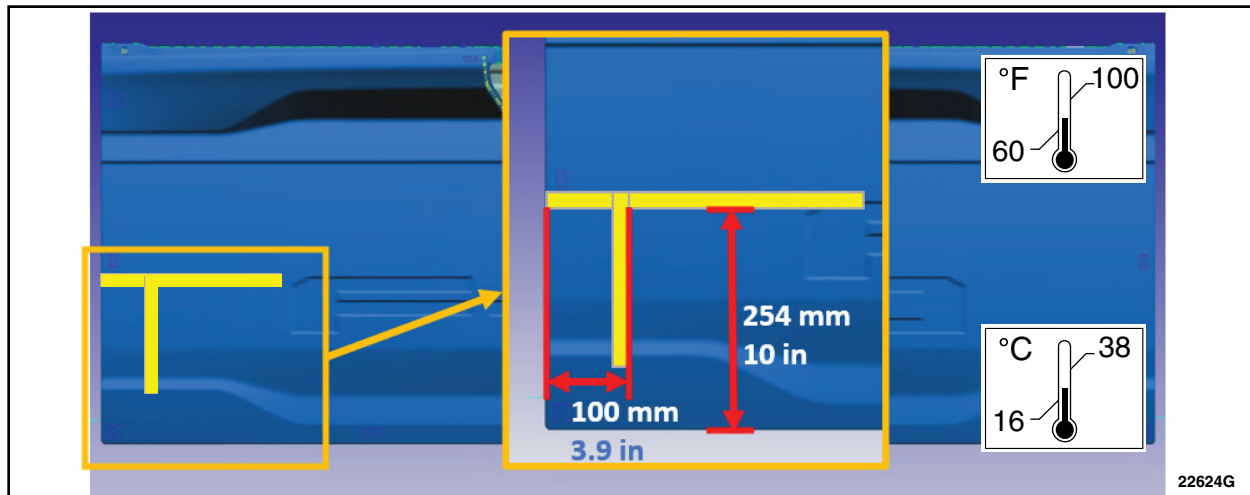

FIGURE 10
34. Measure and apply locating masking tape to the tailgate outer panel. See Figure 10.